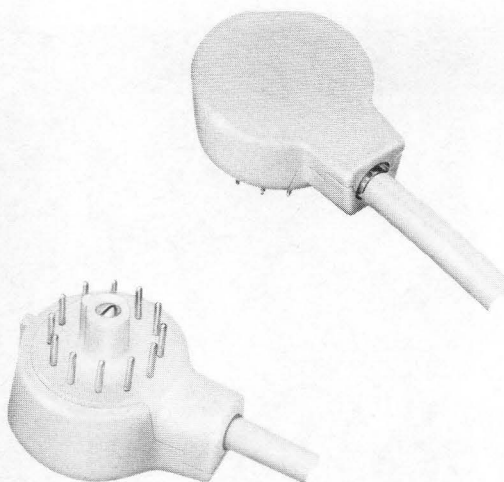

Fig. 38—504A Plug
6.01 Included with the 504A plug (Fig. 38 and 39) is a metal cord stay designed for use with cords equipped with a wire S hook. The S hook is removed and discarded. The cord stay, inserted into the vacated band hole, serves as a wing band.